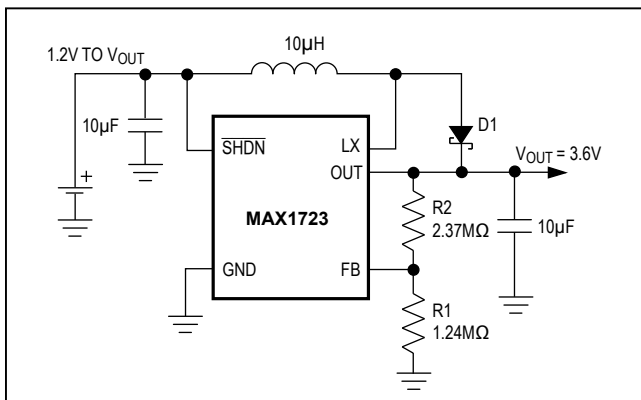
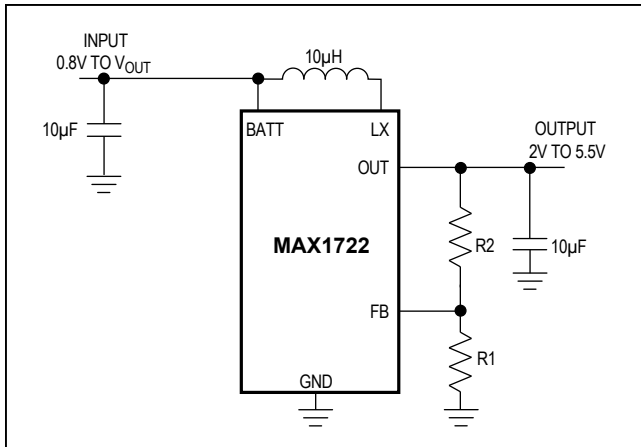
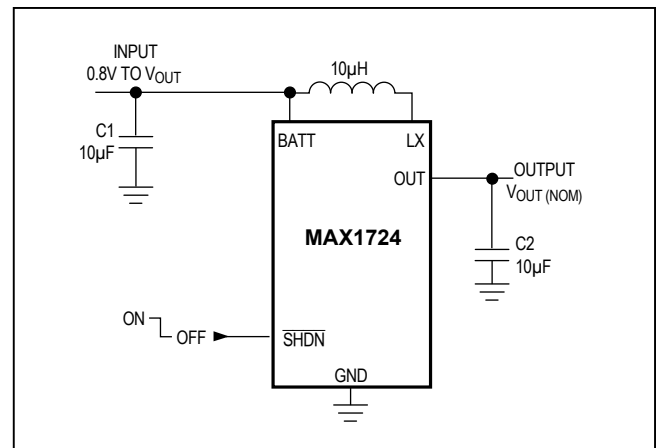

Figure 3. MAX1723 Single-Cell Operation
Figure 7. Adjustable Output Circuit
Figure 8. MAX1724 Standard Application Circuit
- Note 2:** Guaranteed with the addition of a Schottky MBR0520L external diode between LX and OUT when using the MAX1723 with only one cell, and assumes a 0.3V voltage drop across the Schottky diode (see Figure 3).
(Figure 3 (MAX1723), Figure 7 (MAX1722), Figure 8 (MAX1724), VBATT = VIN = 1.5V, L = 10µH, CIN = 10µF, COUT = 10µF, TA = +25°C, unless otherwise noted.)
lacks a BATT pin; therefore, this circuit is powered through the OUT pin. Adding a Schottky diode in parallel with the P-channel synchronous rectifier allows for startup voltages as low as 1.2V for the MAX1723 (Figure 3). The external Schottky diode is not needed for input voltages greater than 1.8V. Once started, the output maintains the load as the battery voltage decreases below the startup voltage.
The output voltage can be adjusted from 2V to 5.5V using external resistors R1 and R2 (Figure 7). Since FB leakage is 20nA (max), select feedback resistor R1 in the 100kΩ to 1MΩ range. Calculate R2 as follows: